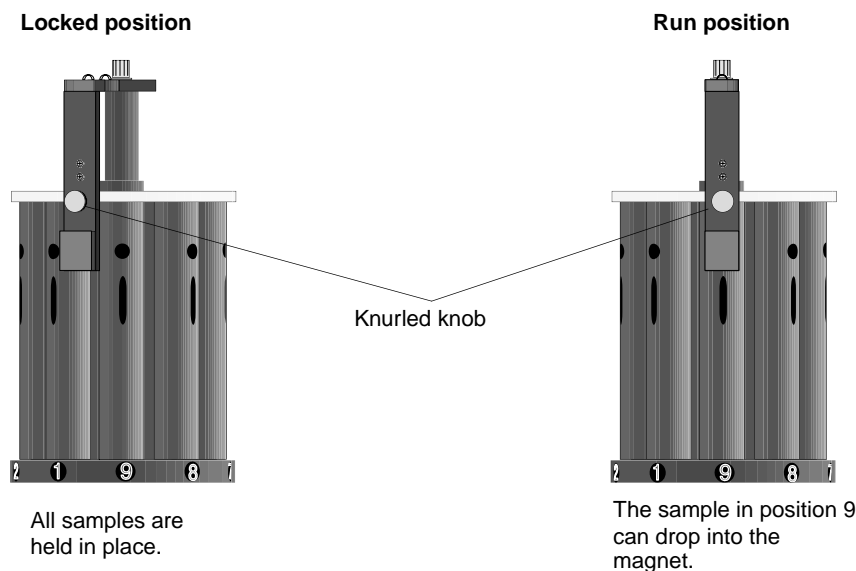
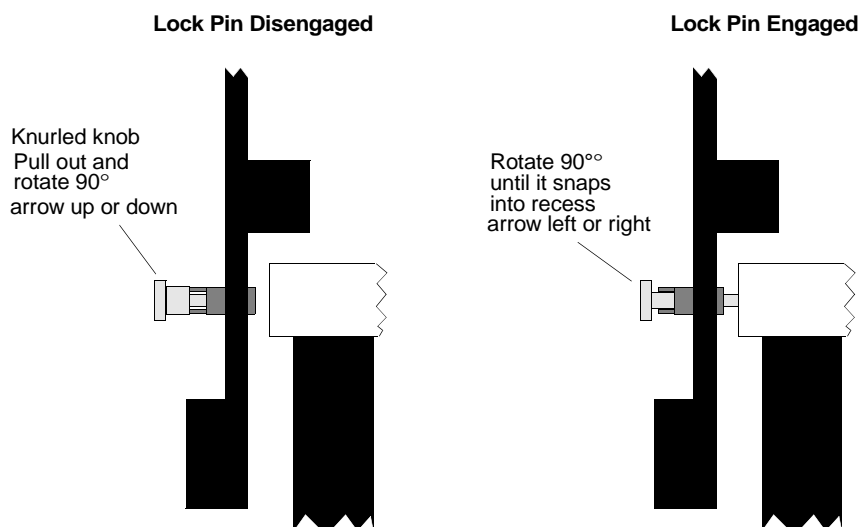

Figure 61. Carousel with Sensor Arm in Locked and in Run Positions
Figure 62. Lock Pin on Sensor Arm Disengaged and Engaged
1. With the sensor arm locked (See Figure 61 and Figure 62), look into the carousel tubes. The sensor arm is locked when the arm is positioned between position 9 and position 1 and when the arrow on the knurled knob is pointing to the left or right. The pin of the knurled knob should be in the hole located between positions 9 and 1 on the upper white disk of the carousel (see Figure 62).
2. If the sensor arm is locked, disengage the lock pin by pulling out the knurled knob and rotating it 90°. The arrow on the knurled knob now points up or down. See Figure 62. Notice how the sensor arm is free to rotate.
3. Move the sensor arm to the right, from between positions 9 and 1 to directly over position 9. When the carousel is mounted to the driver, the arm only moves between the run and locked positions, shown in Figure 61.
CAUTION: Samples could fall through and break if the carousel is not in the locked mode. Before removing the carousel, rotate the carousel so that position 1 is over the upper barrel. The sensor arm must be in the locked position, as shown in **Figure 61**, with the lock pin engaged and the arrow on the knurled knob pointing to the left or right.
3. Move the sensor arm to the left, from run to lock mode (see **Figure 61**), until the arm stops between position 9 and position 1.
3. With the knurled knob disengaged (see **Figure 62**), move the sensor arm to the left so that it clicks between positions 9 and 1 (see **Figure 61**).